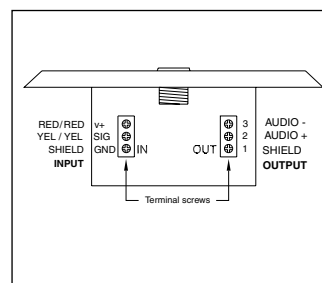

Figure 3
b. If RFI immunity is not required, the TA3M-type connector on the plate can be removed and discarded (save the back nut and washer). Assemble the included plastic ferrule into the hole left from the TA3M-type connector, using the washer and nut from the connector to secure the ferrule. Cut the cable to the desired length plus a few inches. Thread the cable through the ferrule and tie a knot in the cable behind the ferrule to secure it. Carefully strip the ends of the cable and connect the wires to the terminals formerly occupied by the TA3M-type connector. Maintain color coding (Shield - S, Yellow - Y, Red - R) and connect the microphone wires to the appropriate terminal screws (Fig. 3).